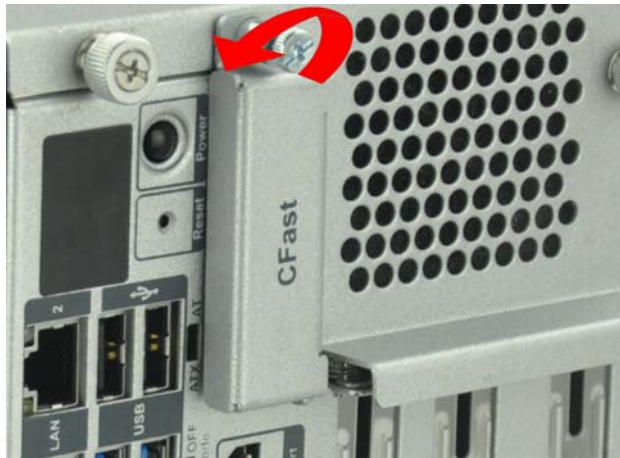

Figure 3-1: CFast Socket
Step 1: Locate the CFast socket, and then loosen the thumbscrew (**Figure 3-1**).